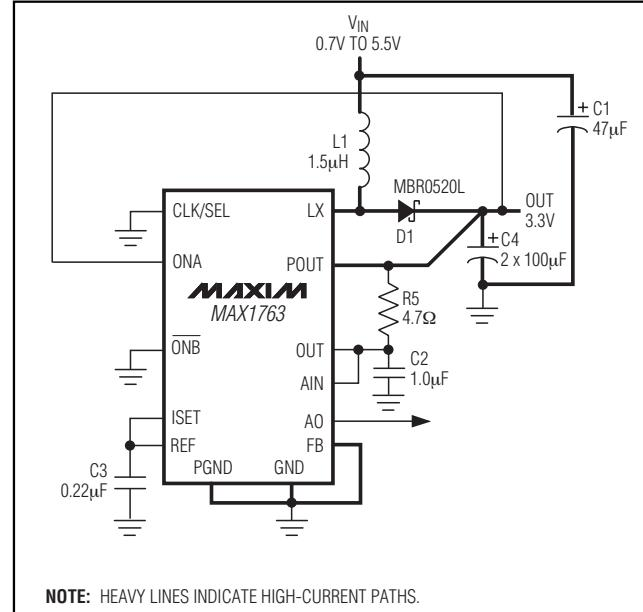

Figure 2. PFM/PWM Automode Connection
**Note 2:** Startup is tested with the circuit of Figure 2.
(Circuit of Figure 2,  $V_{IN} = +3.6V$ ,  $V_{OUT} = +5V$ ,  $T_A = +25^\circ C$ , unless otherwise noted.)
In its normal mode of operation (CLK/SEL = low), the MAX1763 offers fixed-frequency PWM operation through most of its load range. At light loads (less than 25% of full load), the device automatically optimizes efficiency by switching only as needed to supply the load. Shutdown reduces quiescent current to just 1µA. Figure 2 shows the standard application circuit for the MAX1763. (An external Schottky diode is needed for output voltages greater than 4V, or to assist low-voltage startup.)
For conditions where  $V_{IN}$  might exceed the set  $V_{OUT}$ , or where  $V_{OUT}$  is set above 4V, an external Schottky diode must be connected from LX to POUT in parallel with the on-chip synchronous rectifier. See D1 in Figure 2. The diode should be rated for 0.5A. Representative devices are Motorola MBR0520L, Nihon EP05Q03L, or generic 1N5817. This external diode is also recommended for applications that must start with input voltages at or